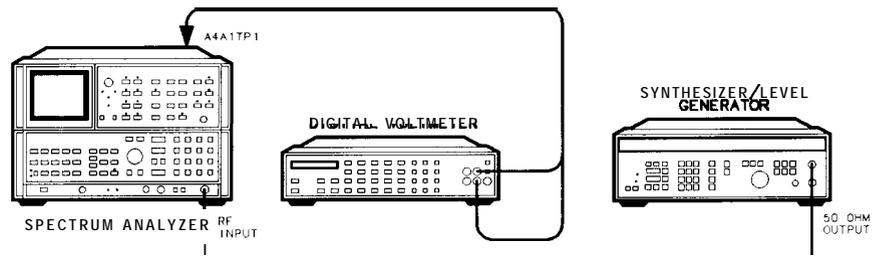

Figure 3-33. Log Amplifier Adjustments Setup
1. Position instrument upright as shown in Figure 3-33, with top cover removed.